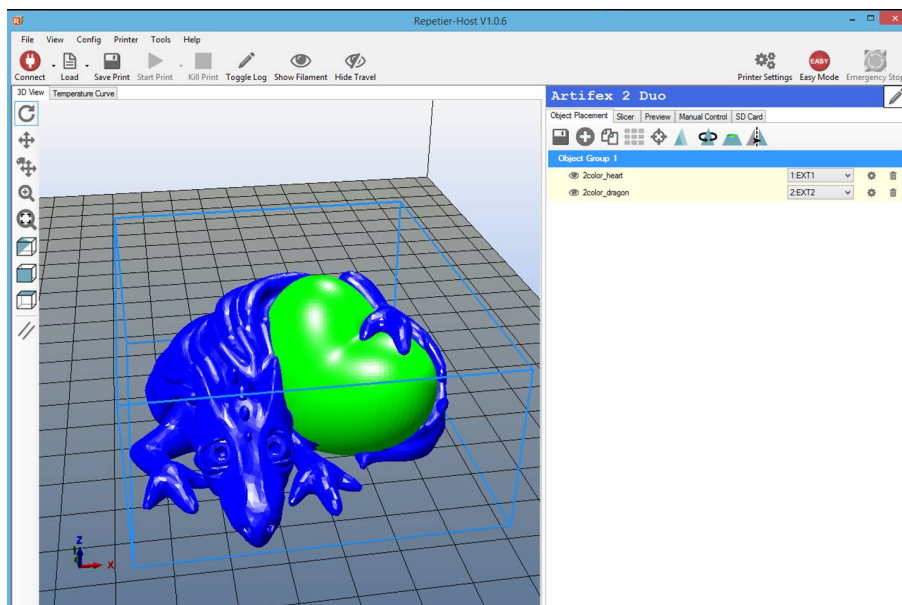

Figure 6.14: Merging two-color models into one object group
- Merge two color models into one group by dragging one color model into the group of another color model (Figure 6.14).